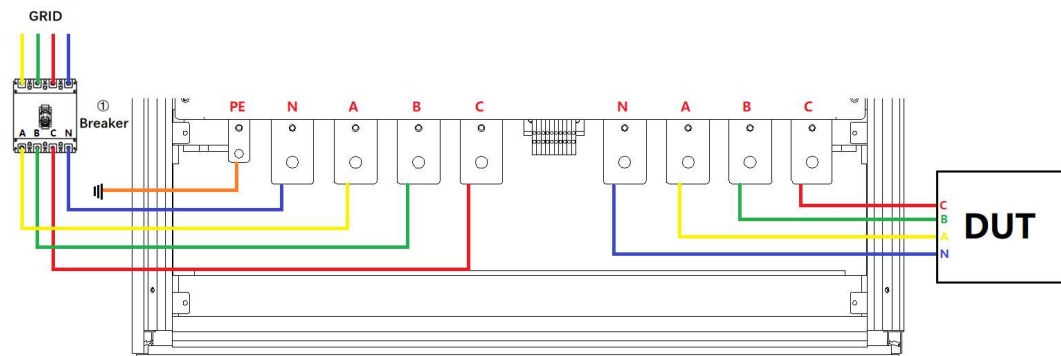

Figure 3-11
Step 4: Power off circuit breaker of the AC input side (Figure 3-11①).